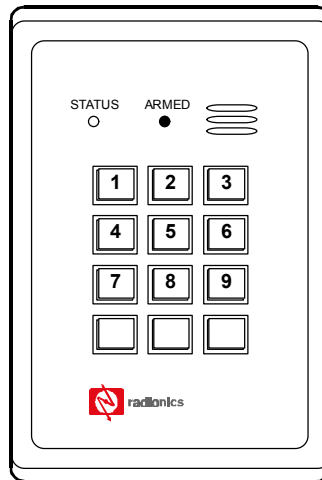

Figure 1: D269 Keypad
1. Press the *center bottom blank key* once (see Figure 1).